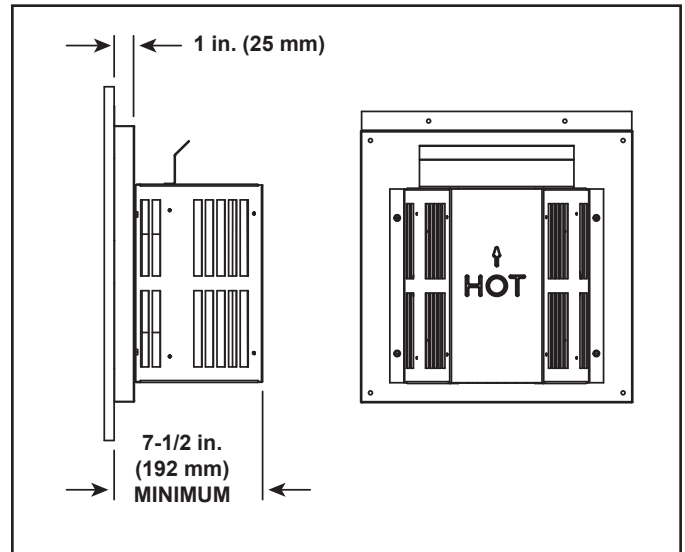

Figure 10.18 Termination Cap
- **DO NOT** remove the heat shields attached to the wall shield firestop and the horizontal termination cap (shown in Figure 10.18).
There are two sections of the heat shield. One section is factory-attached to the wall shield firestop. The other section is factory-attached to the cap. See Figure 10.18.